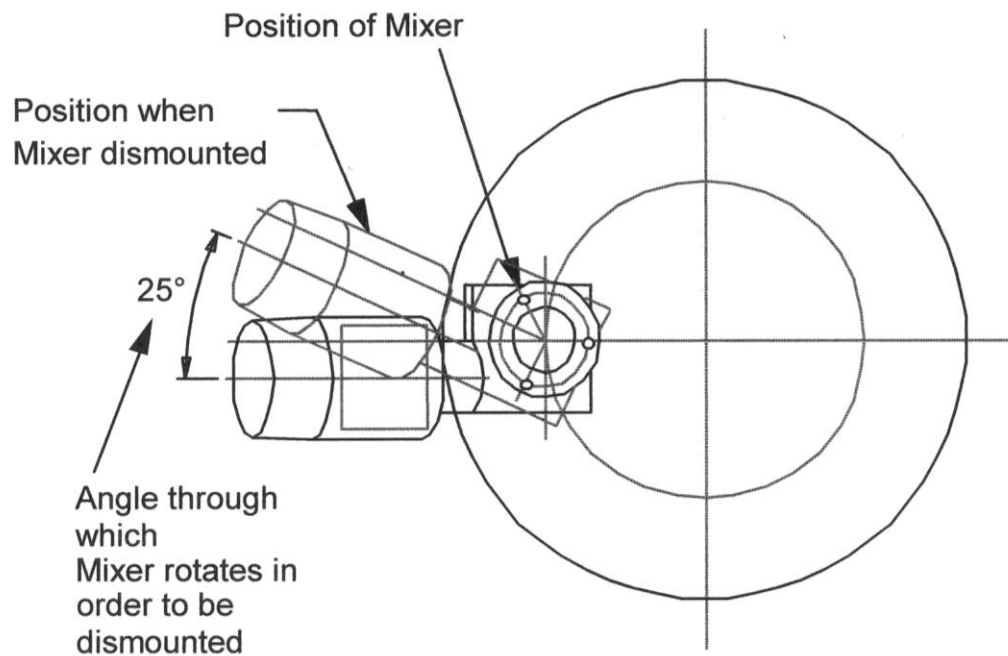

Figure A-2b Mixer position viewed from top of vessel
- (1c) Model MM20 has three mounting studs in the mixer pad. The normal orientation of the mounting studs is across the vessel centre line (see Figure A-2b). This puts the axis of the mixer on the centre line of the vessel.